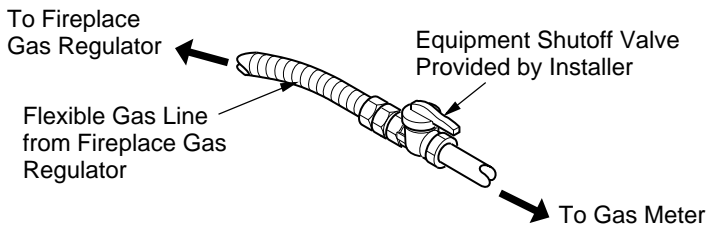

Figure 23 - Attaching Flexible Gas Lines Together
**NOTICE:** Most building codes do not permit concealed gas connections. A flexible gas line is provided to allow accessibility from the fireplace (see Figure 23). The flexible gas supply line connection to the equipment shutoff valve should be accessible.
2. Apply pipe joint sealant lightly to male threads of gas connector attached to flexible gas line (see Figure 23).
4. Check all joints from equipment shutoff valve to thermostat gas valve (see Figure 23, page 14). Apply noncorrosive leak detection fluid to gas joints. Bubbles forming show a leak.